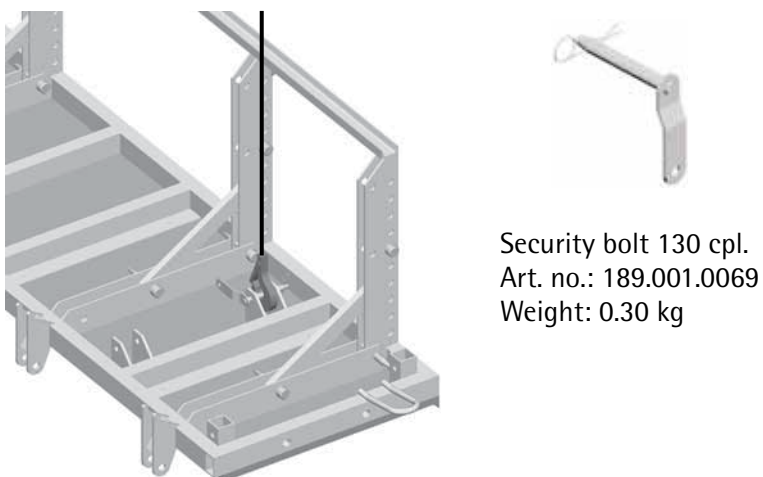

Fig. 14
- Transport occurs acc. Fig. 14 on page 11.
2. Prepare the second wing and move acc. to Fig. 14. The crane hitch is accomplished via the security bolt 130 cpl. in the slinging plates for the adjustable props (two hitches).